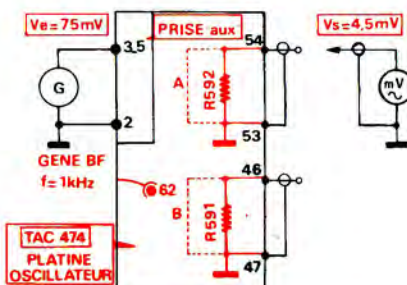

Fig. 32
7. CONTROLE DU COURANT BF NOMINAL (Fig. 32)